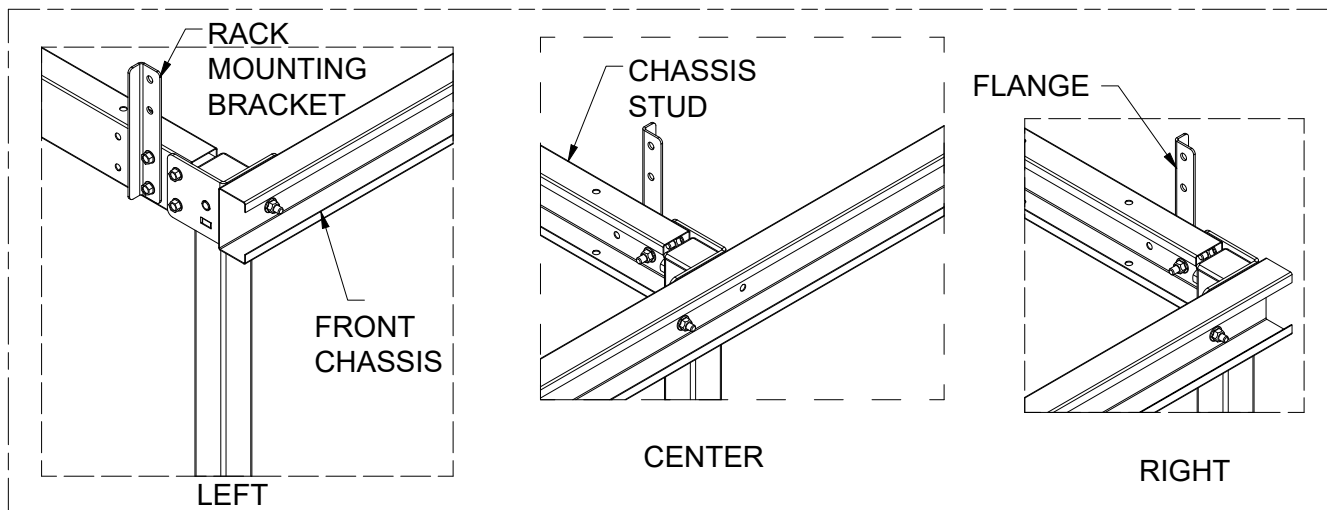
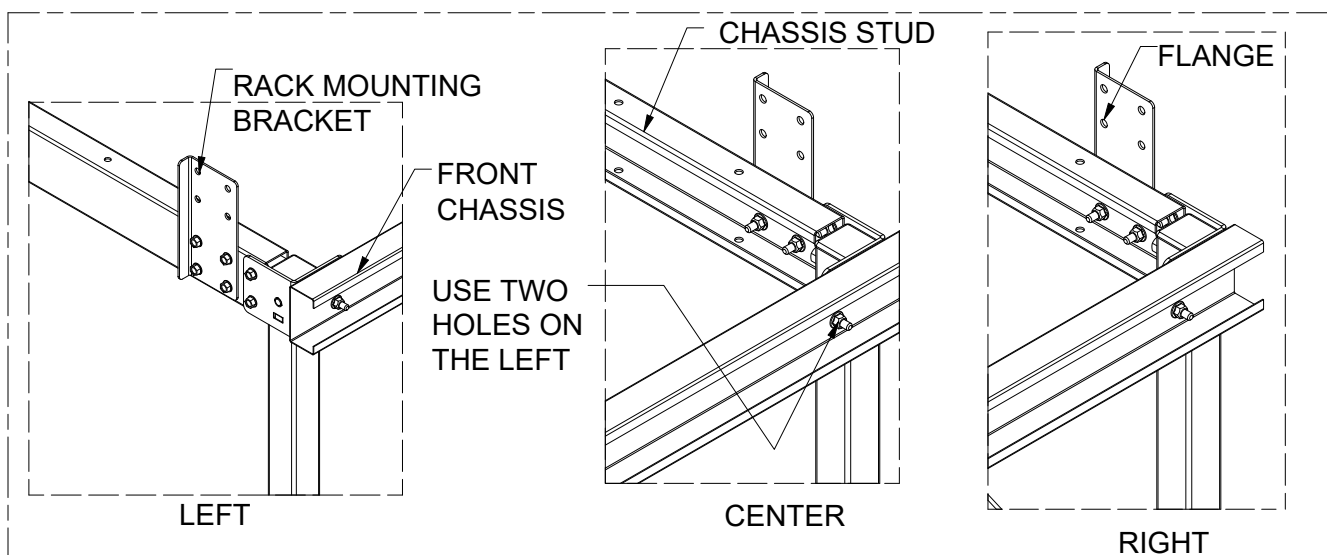
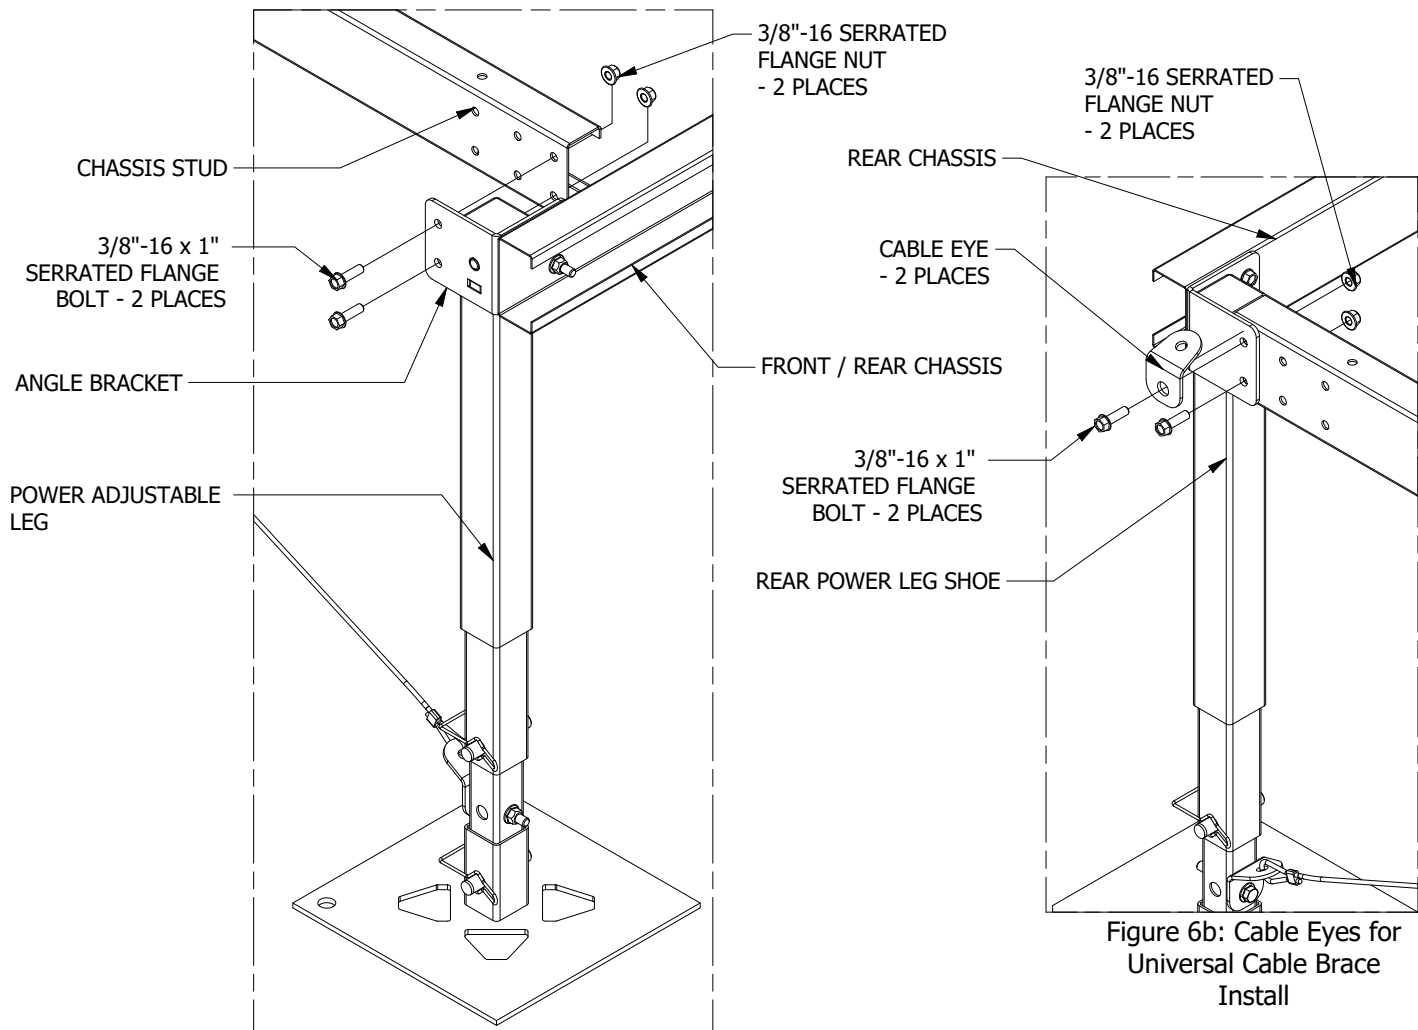

FIGURE 4: Chassis Assembly - STD
FIGURE 5: Chassis Assembly - HD / XHD
Figure 6a: Chassis Stud to Angle Bracket on Power Adjustable Leg
3. Place (3) Power Adjustable Legs just inside the Front Chassis and the other (3) Power Adjustable Legs just inside the Rear Chassis. The legs will create the corners of the Osprey PowerPlatform®. Note that there are (4) pre-punched holes in the center of the chassis. It doesn't matter which set of holes are used as long as they mirror each other front to back and the tube of the leg lines up between both sets of holes. Refer to Figure 4 below. Figure 5 shows similar detail for the HD/ XHD versions of the Osprey PowerPlatform®.
4. Place three Chassis Studs perpendicular to the Front & Rear Chassis aligned with the Power Adjustable Legs near the corresponding pre-punched bolt holes. Note how Chassis Studs are oriented in Figure 4 & 5 above and Figure 6a below. Place the two Eye Brackets on outer Rear Power Leg as Figure 6b below.